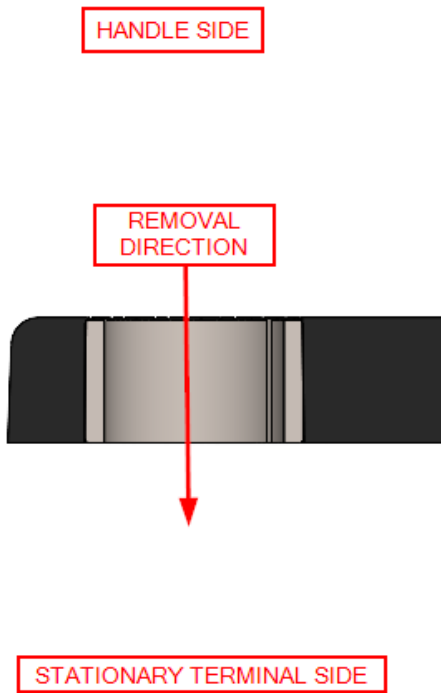
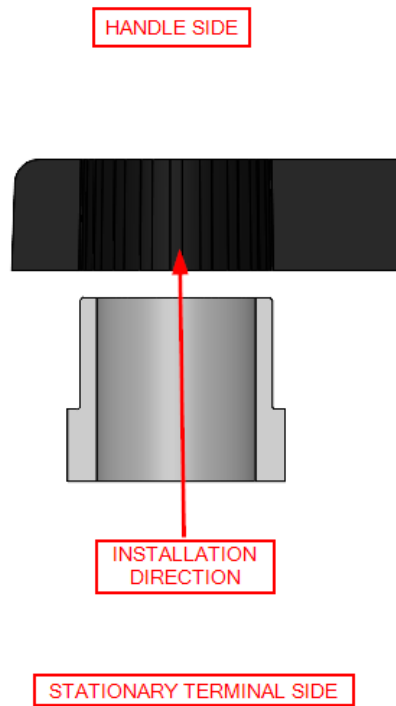

Figure 1
Figure 2
3. Remove the original low profile compression limiters (Figure 1) from HVB housing and replace them with RP2286 Compression limiters (Figure 2 / 3)